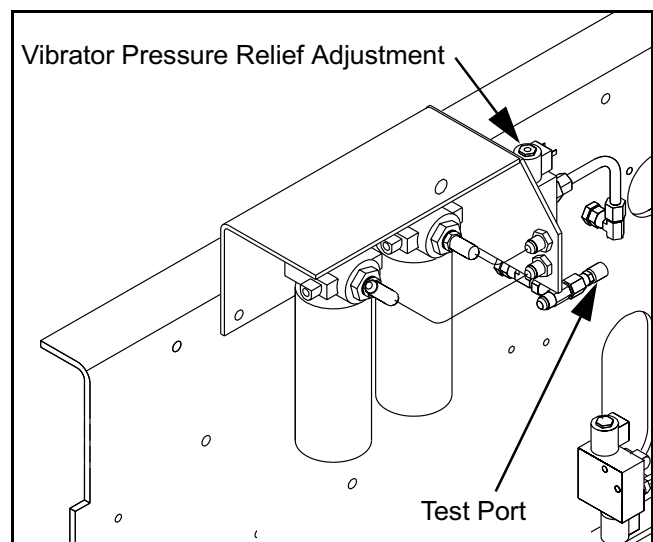

Figure 5 - 24 Vibrator Pressure Test Port
- 2) Install a 3000 PSI pressure gauge to the test port on the vibrator solenoid valve. (Figure 5 - 24)